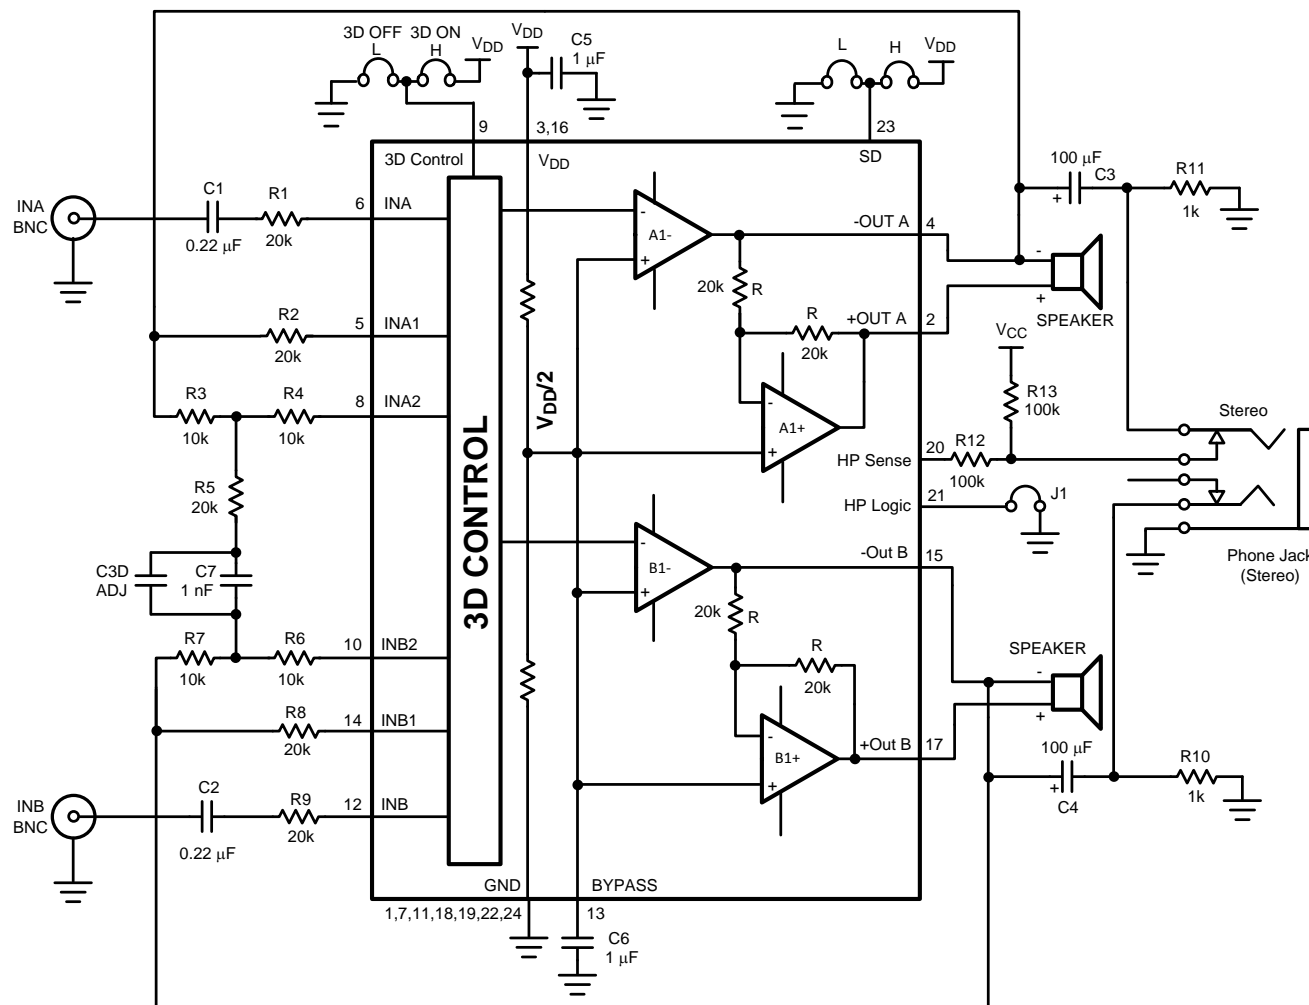

Figure 2. Typical Audio Amplifier Application Circuit
- (1) Absolute Maximum Ratings indicate limits beyond which damage to the device may occur. Operating Ratings indicate conditions for which the device is functional, but do not ensure specific performance limits. Electrical Characteristics state DC and AC electrical specifications under particular test conditions which ensure specific performance limits. This assumes that the device operates within the Operating Ratings. Specifications are not ensured for parameters where no limit is given. The typical value however, is a good indication of device performance.
- (2) All voltages are measured with respect to the ground (GND) pins, unless otherwise specified.
- (3) All measurements taken from Applications Diagram (see Figure 2).
- (4) Typicals are specified at  $25^\circ C$  and represent the parametric norm.
- (5) Datasheet min/max specification limits are specified by design, test, or statistical analysis.
- (6) The quiescent power supply current depends on the offset voltage when a practical load is connected to the amplifier.
- (6) Output power is measured at the device terminals.
- (7) When driving  $3\Omega$  or  $4\Omega$  loads and operating on a 5V supply, the LM4888WQFN must be mounted to a circuit board that has a minimum of  $2.5in^2$  of exposed, uninterrupted copper area connected to the WQFN package's exposed DAP.
- (4) Typical values are specified at  $25^\circ C$  and represent the parametric norm.